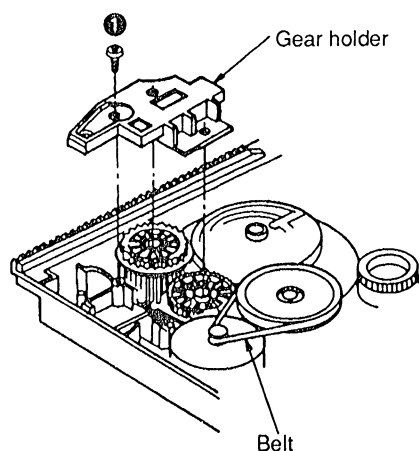

Fig.6
9. Install the gear holder and secure it with a screw (1). (See Fig.6.)
10. Install the belt. (See Fig.6.)